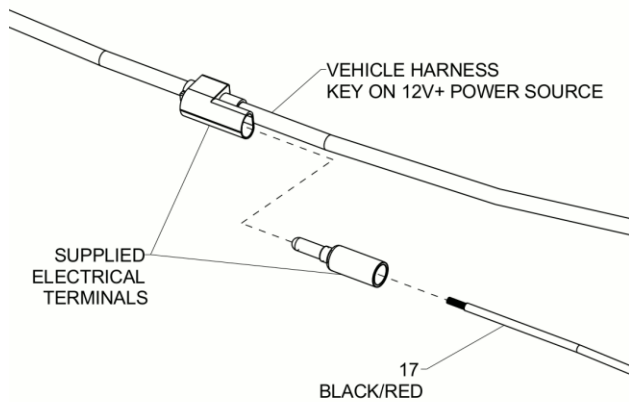

Figure 10. Key-On Power Source Connection G10756
8. Connect the un-terminated BLACK/RED key-on power source wire of the Vehicle Side Wiring Harness (17) to a key-on 12V+ power source on the vehicle using the supplied electrical terminals as shown in Figure 10. Location and end termination type will vary depending on application.